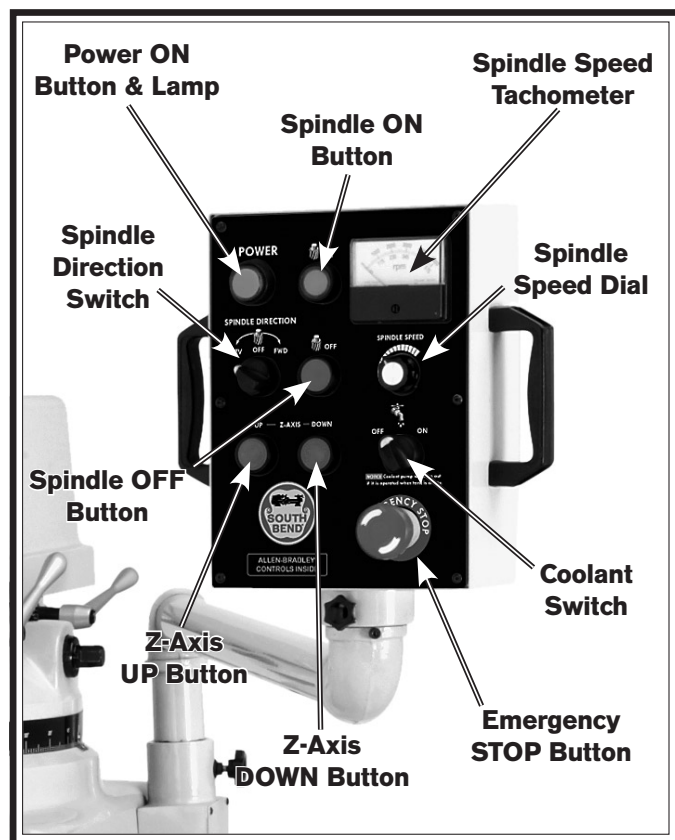

Figure 17. Control panel identification.
4. Rotate the spindle speed dial on the control panel counterclockwise to the lowest setting, the spindle direction switch to the OFF (middle) position, and the coolant switch to the OFF (left) position (see **Figure 17**). This will disable these functions for now when the power initially flows to the control panel in the next steps.